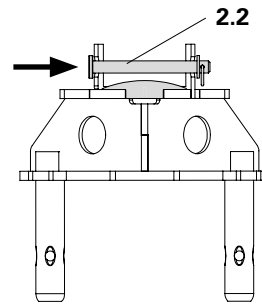

Fig. A4.01b
4. Secure connecting bolts (2.2) with plate and cotter pins. (Fig. A4.01b)